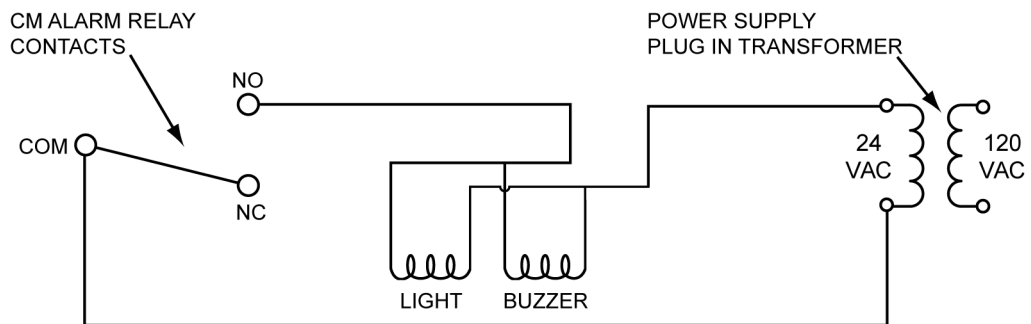

Figure 19
- 2 Feed one end of the wires cut in Step 1 through the compression fitting on the Alarm Box - see Figure 17 on page 22. Leave enough wire inside the Alarm Box enclosure to make the wiring connections shown in Figure 19 on page 24. Tighten the compression fitting.
- 3 Strip 1/4" of insulation from the ends of all four wires inside the Alarm Box enclosure. Using the included wire nuts (Table 4 on page 21) connect the wiring as shown in the Connection and Wiring diagrams in Figure 19 on page 24.
- 5 Ensure the low voltage wiring is properly connected to the 24 VAC output terminals on the Power Supply plug in transformer as shown in the Connection and Wiring diagrams in Figure 19 on page 24. Strip 1/4" of insulation from the two wire ends leading to the plug in transformer and make the connections.
- 6 Strip 1/4" of insulation from the two wire ends leading to the Alarm Relay contact terminal strip on the CM. Connect these two wire ends to the "COM" and "NO" terminals on the terminal strip - see the Connection and Wiring diagrams in Figure 19 on page 24 and Figure 18. Unplug the Alarm Relay contact terminal strip from the CM when making these connections and tighten the terminal screws securely. Plug the terminal strip back into the CM when finished.
- 8 Check for voltage between the "COM" and "NO" Alarm terminals on the Alarm Relay contact terminal strip with an AC volt meter. If 24 VAC is not present ensure all Alarm Box wiring is properly connected - see the Connection and Wiring diagrams in Figure 19 on page 24.